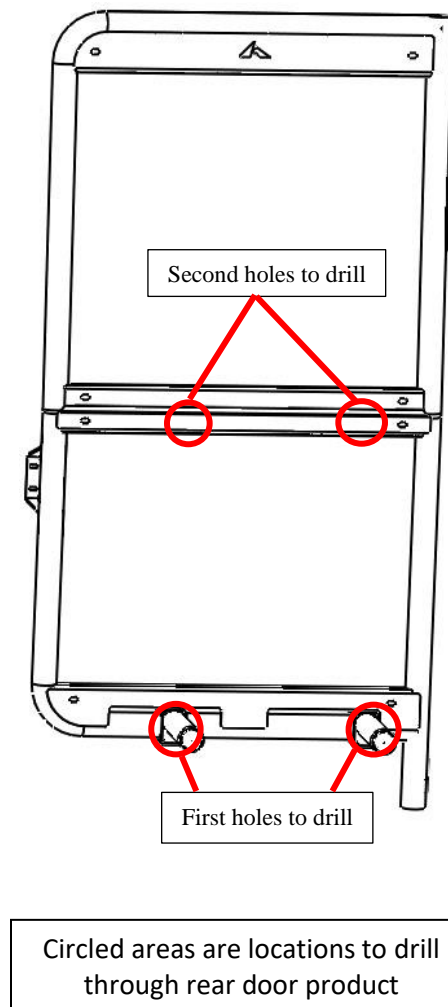

Figure 2: Drill and Bolt Locations for Rear Door Products
- a. First - Two of the holes should be drilled through the bottom of the box and through the support stands (see Figure 2 for location).
- b. Second - The other two holes should be drilled through the back of the box and rear door product sheet metal support (also seen in Figure 2).